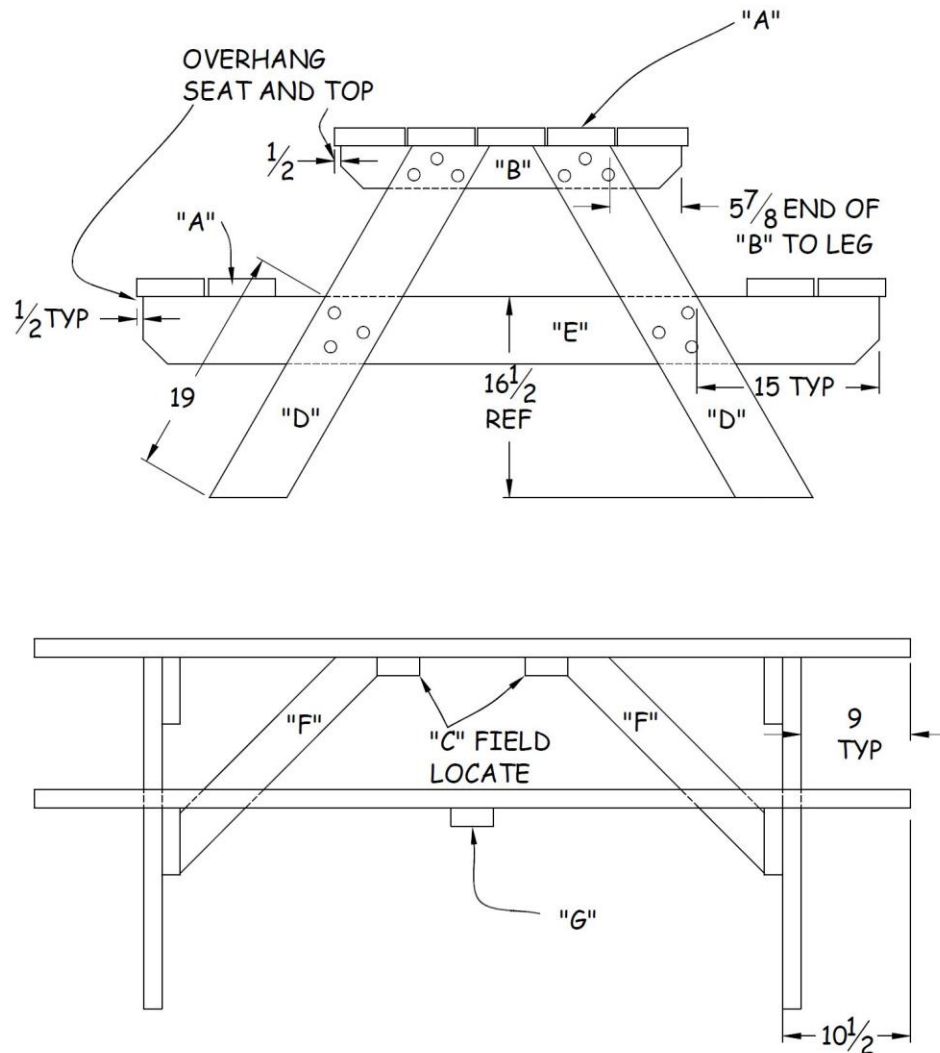

Figure 24-2. Picnic Table Assembly.
4. To build one leg assembly, place one Component “B” and one Component “E” parallel to each other on a flat surface. Lay a pair of legs (Component “D”) on top of the first two components so they approximate the arrangement in Figure 24-2. Place scrap 2x support blocks under the four intersection points.
5. Position the legs so they are inside the 6” marks on Component “B” and the cut angles of the legs are flush with the top of Component “B” (see Figure 24-2). Drill three 11/32” holes through each Component “D” into Component “B” at least 1” from the edges (to avoid component failure). Insert one 3½” carriage bolt into each of the six holes (to anchor the three pieces into position).
4. Drill two ⅛” pilot holes through the seat into each bench support, about 1” in from each edge of the seat. Attach the seat to the bench supports using 2½” exterior screws at each anchor point (see Figure 24-2).
1. Position the tabletop pieces (Component “A”) centered on top the bench leg assemblies so that each end of a tabletop piece is 9” from the outside face of its associated Component “D”. Position the outside two tabletop pieces so they each extend  $\frac{1}{2}$ ” beyond the ends of both Component B pieces. Space the interior three tabletop pieces so the gaps between the boards are equal and the table top is evenly distributed across the top of the Component “B” pieces (see Figure 24-2).
3. Attach an angle support (Component “F”) to the center of Component “E” on one leg assembly using two  $2\frac{1}{2}$ ” **exterior** screws. Make sure the double-notched end is positioned up, flush to the underside of the table top, and located in the center of the table. See Figure 24-2 for proper location of pieces.